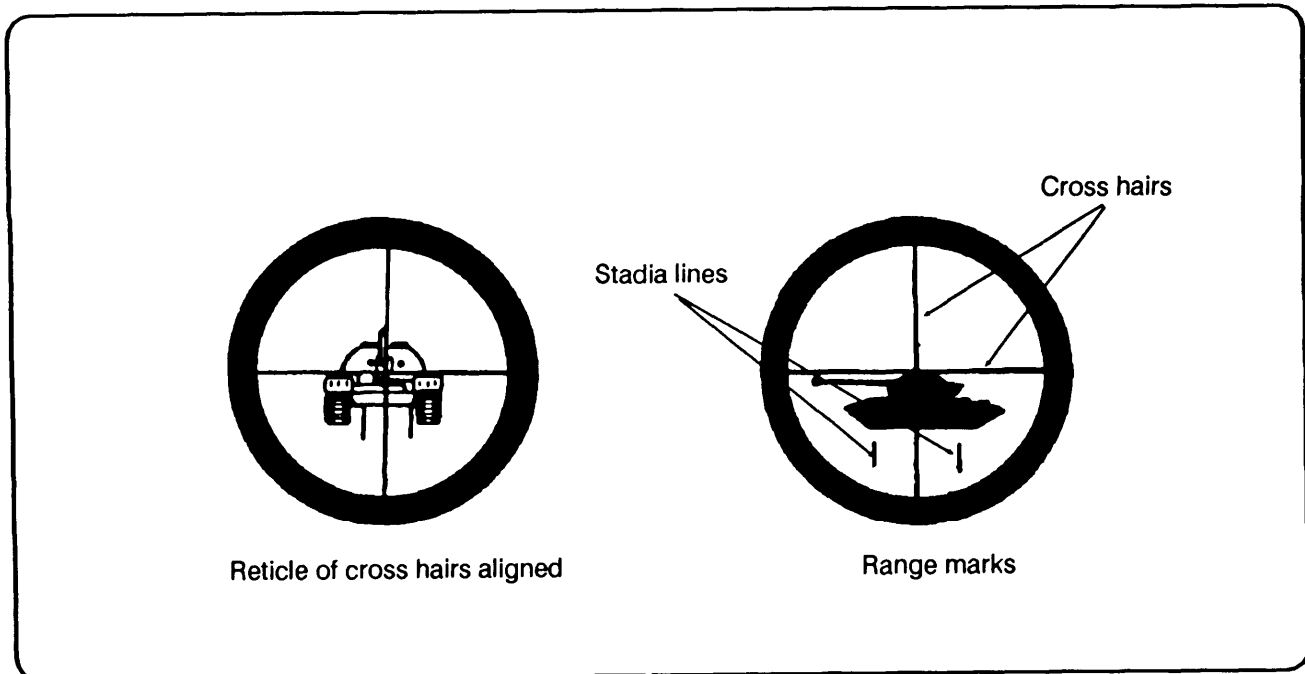

Figure 1-4. Day tracker reticle and stadia lines.
(6) The daytracker's telescopic sight and infrared receiver are aligned to define the LOS to the target. The sight reticle pattern is a tapered cross hair that causes the eye to concentrate on the center of the FOV. This aids the gunner to quickly adjust the center of the cross hairs and place them center mass of the target. A pair of stadia lines (Figure 1-4) are used to aid the gunner to determine the range of a target. The stadia lines are set up for the standard Threat vehicle (6 meters by 3 meters) at the maximum engagement range of 1,000 meters.